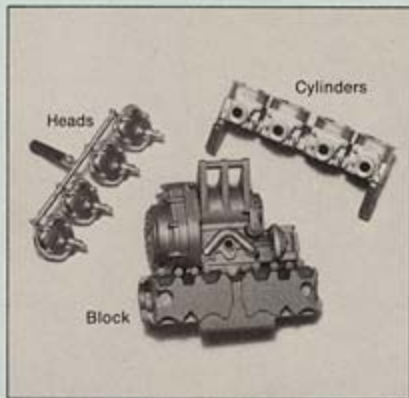

Fig. 2. Metal engine parts range in color from light gray to black and vary in texture as well. These are the major parts for the Suzuki engine.
**Turning plastic into metal.** Metal parts on a full-size motorcycle are bare, chrome-plated, or painted, and they vary considerably in color and texture. For example, in Fig. 1, which shows one of the Suzukis with its fairing removed, and Fig. 2, which shows engine parts before assembly, note that the cylinder heads are semigloss black, the cylinder sides are flat aluminum, and the block is darker still.